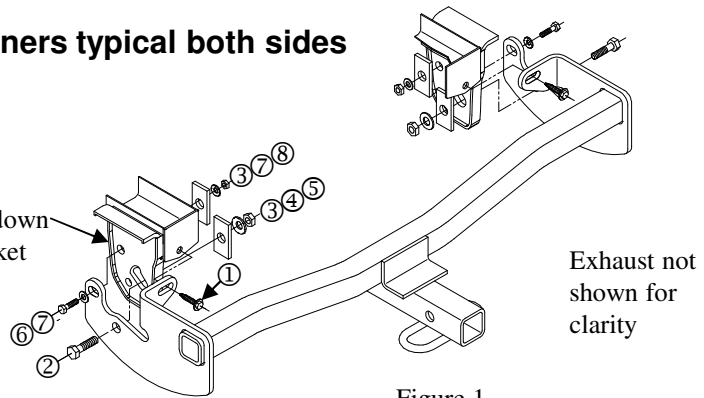

Figure 1.
5. Install fasteners as shown above. See Figure 1.